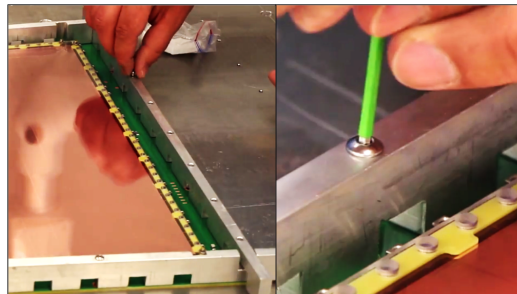

Figure 97: Fixing the assembly jig (2).
Step 12: Screw the aluminum bars to the assembly jig (Fig. 97). Apply sufficient strength to ensure the system will maintain the flatness of the board while performing the stretching of the foils.